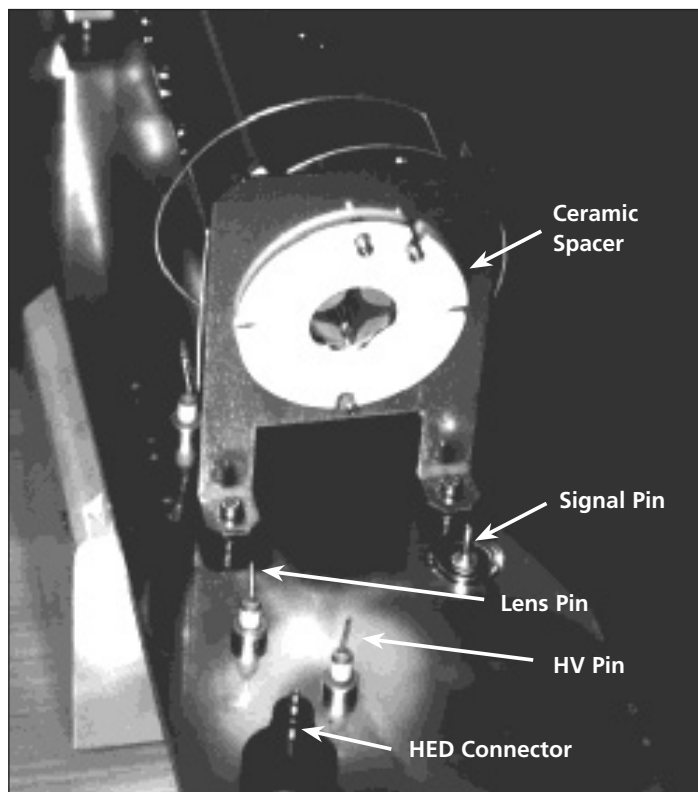

Figure 2: Chamber door with mass analyzer showing ceramic spacer and pin connections. Note: the multiplier has been removed
7. Remove the 2 mounting screws using a hex driver or allen key that has been cleaned in a suitable solvent (AR grade methanol would be suitable). A ceramic spacer plate is positioned behind the multiplier and also held in place with the mounting screws (See figure 2). Care must be taken to ensure that this fragile ceramic plate is not dropped while removing the multiplier mounting. Leave the ceramic plate in its original position as the multiplier mounting is removed.